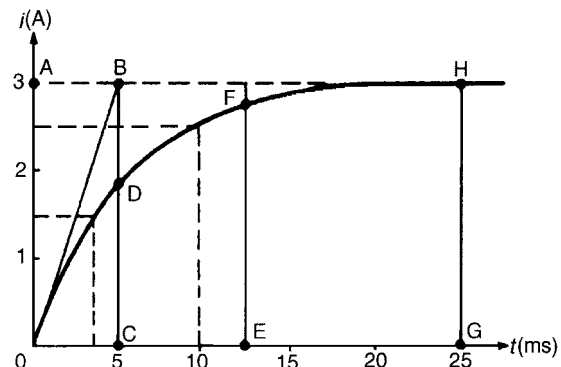

Figure 18.11
- (b) With reference to Fig. 18.11, the initial slope is obtained by making AB equal to 1 time constant, (i.e. 5 ms), and joining OB.